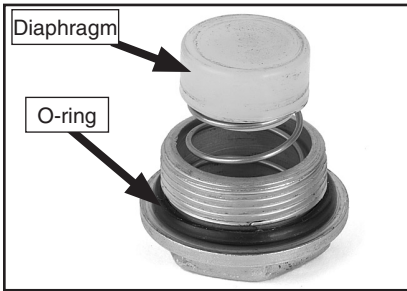

Figure 15. Check valve diaphragm and spring.
3. Inspect the O-ring and diaphragm (**Figure 15**) for damage and dirt.